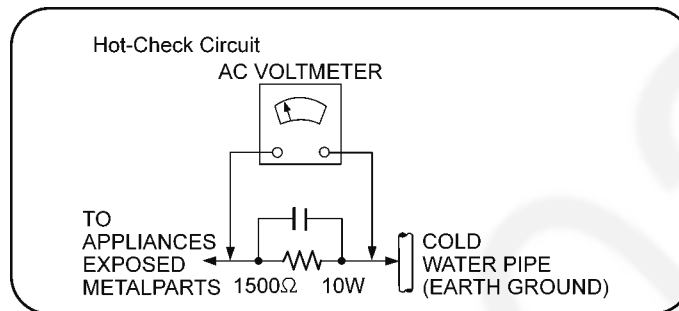

Figure 1-1
2. Connect a 1.5k Ω , 10 watts resistor, in parallel with a 0.15 μ F capacitors, between each exposed metallic part on the set and a good earth ground such as a water pipe, as shown in Figure 1-1.